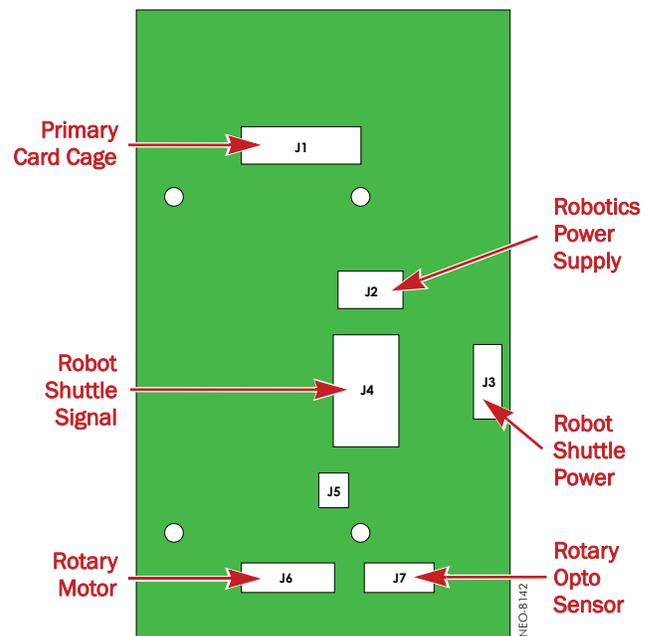

Figure 4. Rotary SPI PCB Connections
- Connect the **six cables** to the new PCB (Figure 4):